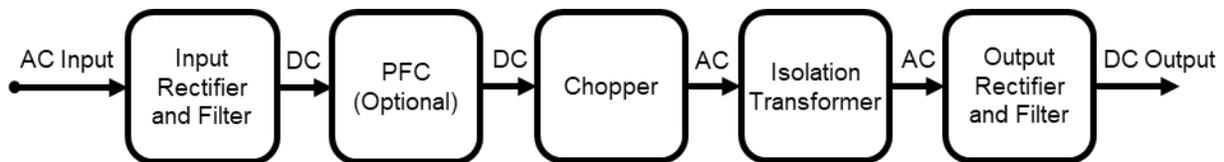

Figure 1: Isolated Switched-Mode AC/DC Power Supply
For many years, linear AC/DC power supplies have been transforming AC power from the utility grid into DC voltage for running home appliances or lighting. The need for smaller and smaller supplies for high-power applications means linear power supplies have become relegated to specific industrial and medical uses, where they are still needed because of their low noise. But switching power supplies have taken over because they are smaller, more efficient, and are capable of handling high power. Figure 1 illustrates the general transformation from alternating current (AC) to direct current (DC) in a switching power supply.